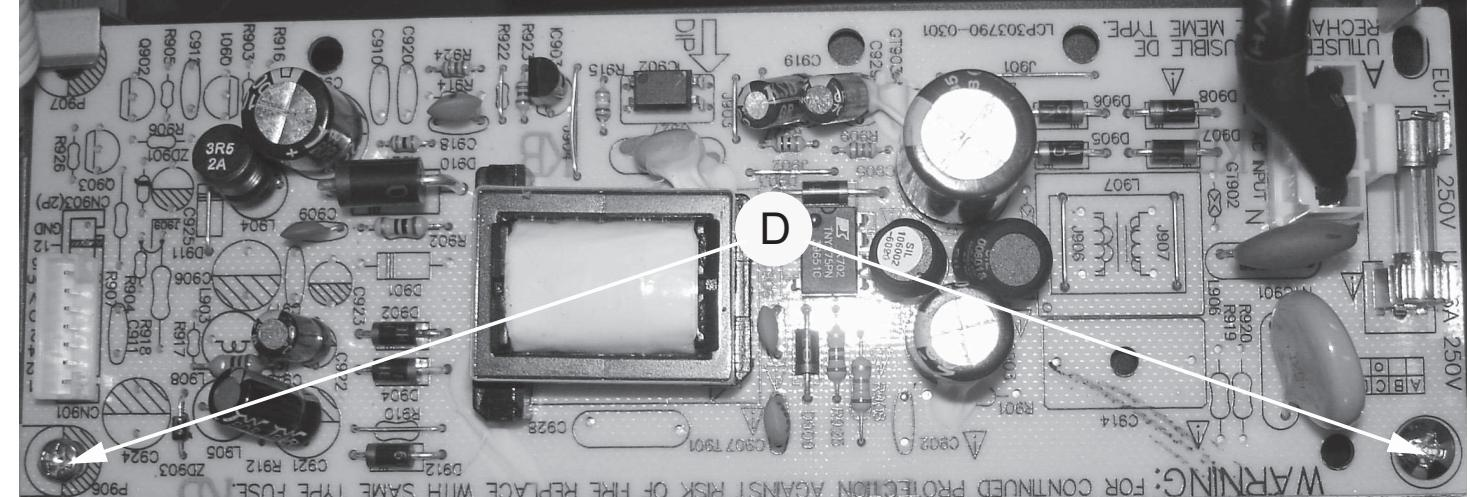

figure 4
- 1) Loosen 2 screws "D" at the Power Board as shown in figure 4 to remove the Power Board.